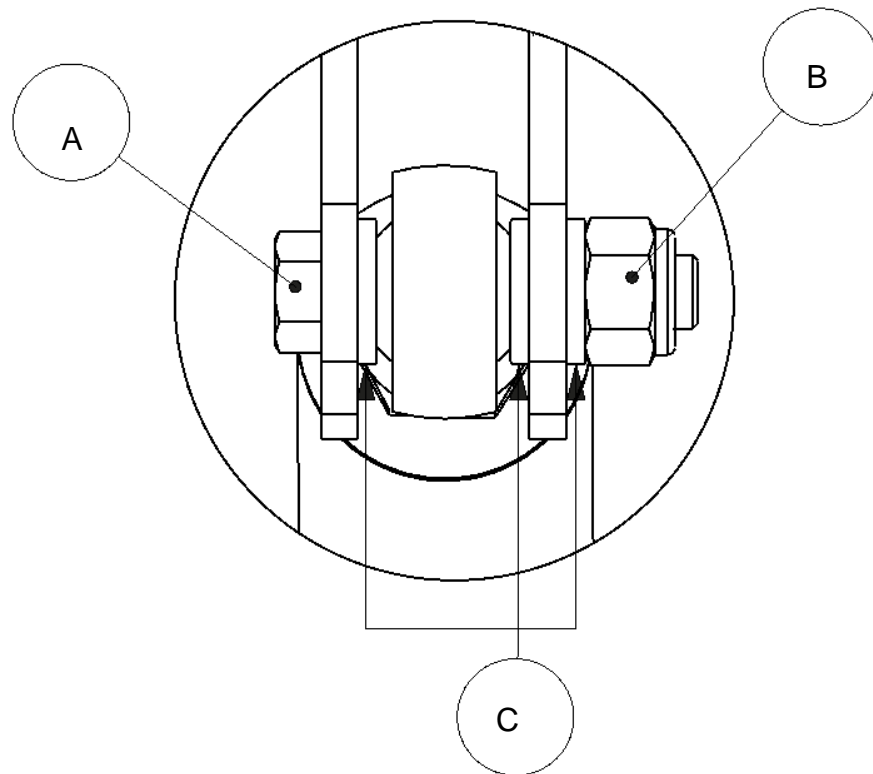

Figure 23: Elevator pushrod to elevator connection.
- Tighten the lock-nut on the bolt through the elevator pushrod rod-end bearing sufficiently. Observe the correct placement of washers (refer to Figure 23). Note that the bolt is installed with its head facing to the port side of the aircraft.